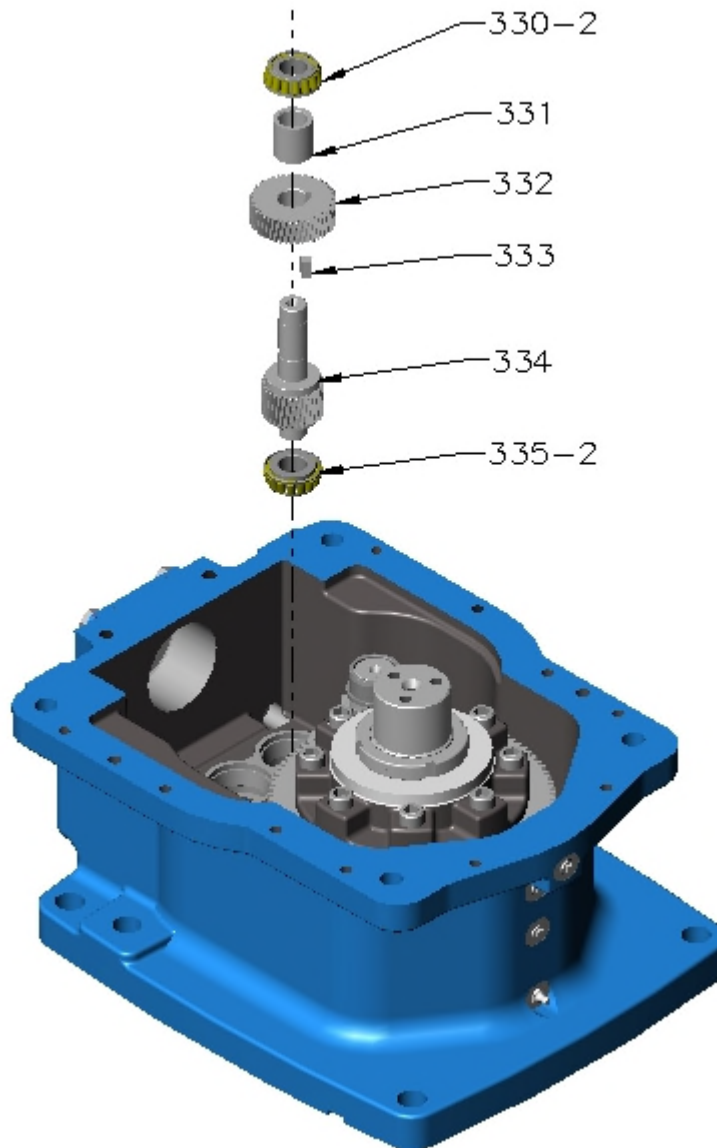

Figure 8 – 1st Intermediate Shaft
- J. Remove 1st intermediate shaft assembly (refer Figure 8).
- K. 1st intermediate shaft disassembly (refer Figure 8):